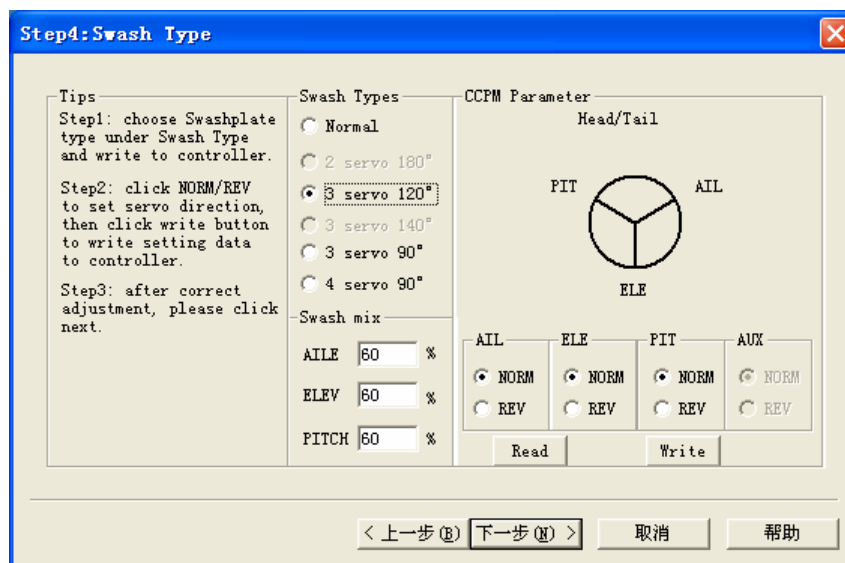

Figure 3. 36
- 3) If it is CCPM mode (Figure 3. 36), parameters of swash mix and Servo direction should be set correctly.